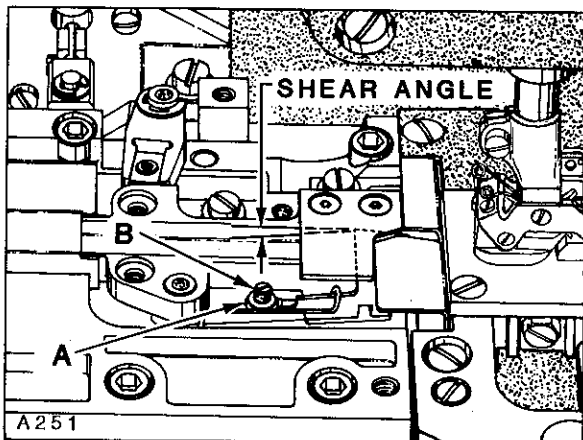

Fig.29
Adjustment of shear angle can be made by loosening nut (A, Fig. 29) and turning screw (B) clockwise (a small amount at a time) while manually operating knife lever (C), continuously checking with a piece of thread to see if knives are cutting. As soon as the knives fail to cut thread and the shear angle is zero, turn screw (B) counterclockwise approximately 1/4 turn and lock with nut (A). Check cutting action of knives when air motor is operating.
**CAUTION!** Turning screw (B) clockwise to an EX-TREME may cause damage to "AIR-KLIPP" Chain Cutter assembly.